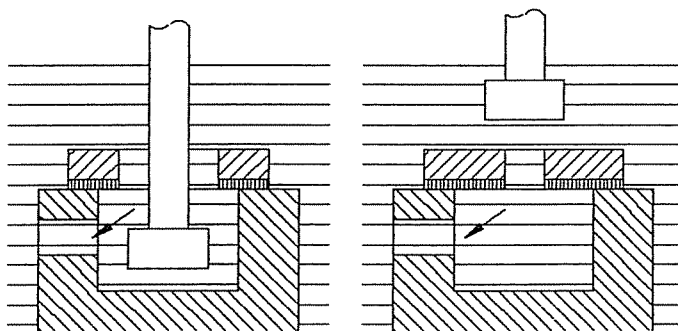

FIG. 4-16
- (1). " Washer " electrodes must be used so that their total length goes through the workpiece.
- (2). At the exit of the machined hole on the lower side of the work piece, it will be found that, over a distance of a few tenths of a millimeter, the spark gap is slightly smaller than quoted in the workpiece, either a 1 mm thick plate of same material can be inserted between the part and the pot, or the part can be made 1 mm thicker than required and this additional thickness removed later by grinding. (Fig.4-16)